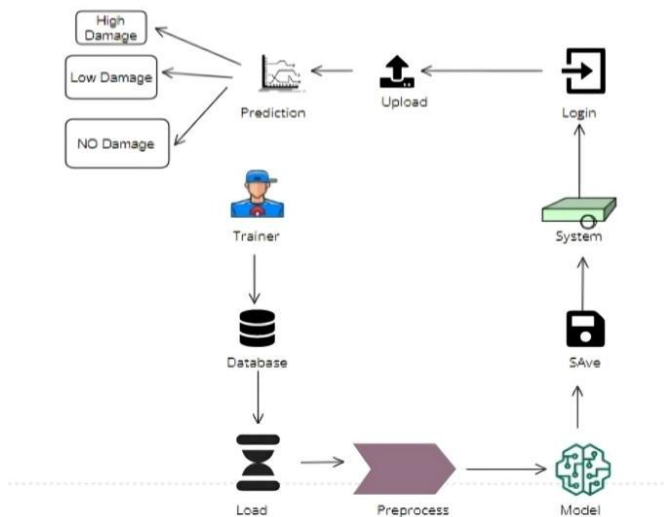

Figure 1 Methodology for Car Damage Price Predictor
- **Price Estimation:** Based on the classified damage severity, link each category to a predefined repair cost, providing users with an accurate price estimate, Shown in Figure 1.